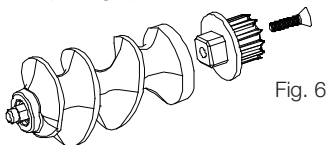

Fig. 6
2. Disassemble the blending pole support, blending pole (see fig.6), blade tray, blade, blade cover, sausage pole, sausage pole support, food pusher, funnel and so on except the motor unit, then immerse them in water for cleaning.
The blending pole is as follows, you can disassemble them to clean if necessary, then replace in turn (see fig.6)